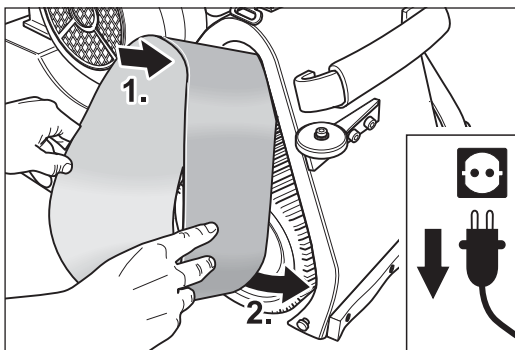
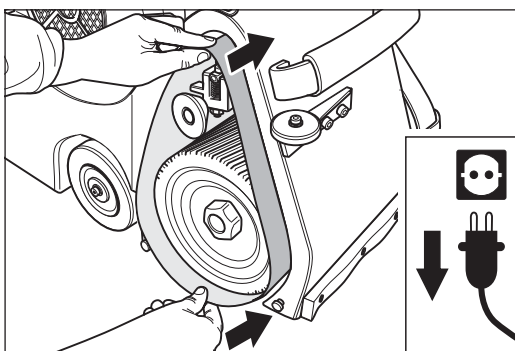

Fig. 8 Position the sanding belt on the tensioning roller of the drive unit. Similar to figure.
Fig. 9 Push the sanding belt over the tensioning roller and sanding drum. Similar to figure.
- 9 Position the sanding belt on the tensioning roller of the drive unit (Fig. 8) and push it over the sanding drum (Fig. 9).